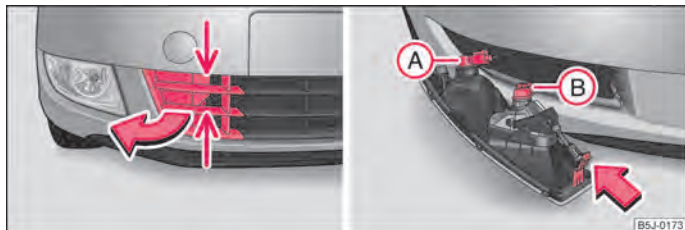

Fig. 156 Front bumper: Protective grille/removing the fog light
- Grasp the grille at the points marked with the arrows ⇒ fig. 156 on the left and take it out.
- Guide your hand into the opening in which the grille was located and press the spring bolt ⇒ fig. 156 on the right.
- Turn the socket (A) with the bulb for daylight driving light or the socket (B) with the bulb of the fog light to the left up to stop and take it out.